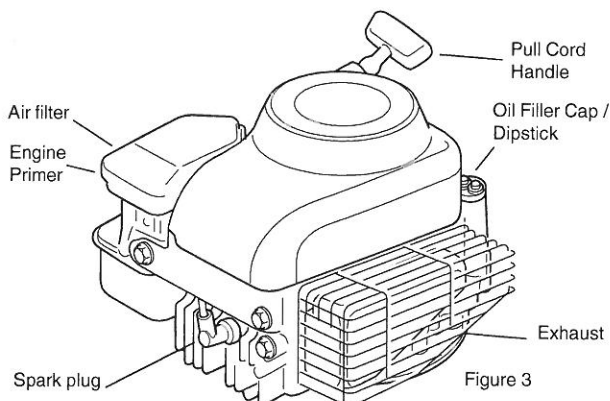

Figure 3
- Put Mountfield 4-stroke, or an SAE 10W-30 oil, in the oil filler (Figure 3). Do not overfill. The oil level should not be above the MAX mark on the dipstick. The oil tank capacity is 0,54 litre or 20 fluid oz of Mountfield oil, part number MX855, is available from any Mountfield stockist or B&Q store.